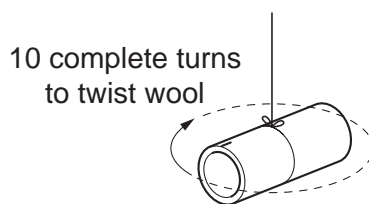

Fig. 1.2
- (a) (i) Keeping the wool taut and the tube horizontal, turn the tube through ten complete turns in order to twist the wool, as shown in Fig. 1.2.